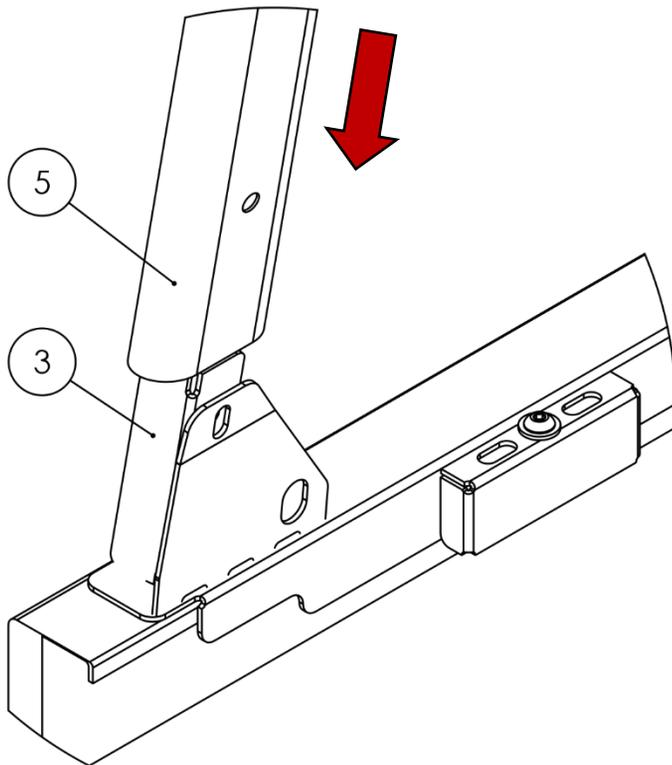

Figure 5
3. **Attach the Legs to the Base Rail.** Examine the Legs (**Item No. 5**) and locate the pre-drilled holes on the inside of each leg. As shown in **Figure 5**, slide the leg down and align it so that its hole matches with the holes found on the Base Rail Assembly (**Item No. 3**).